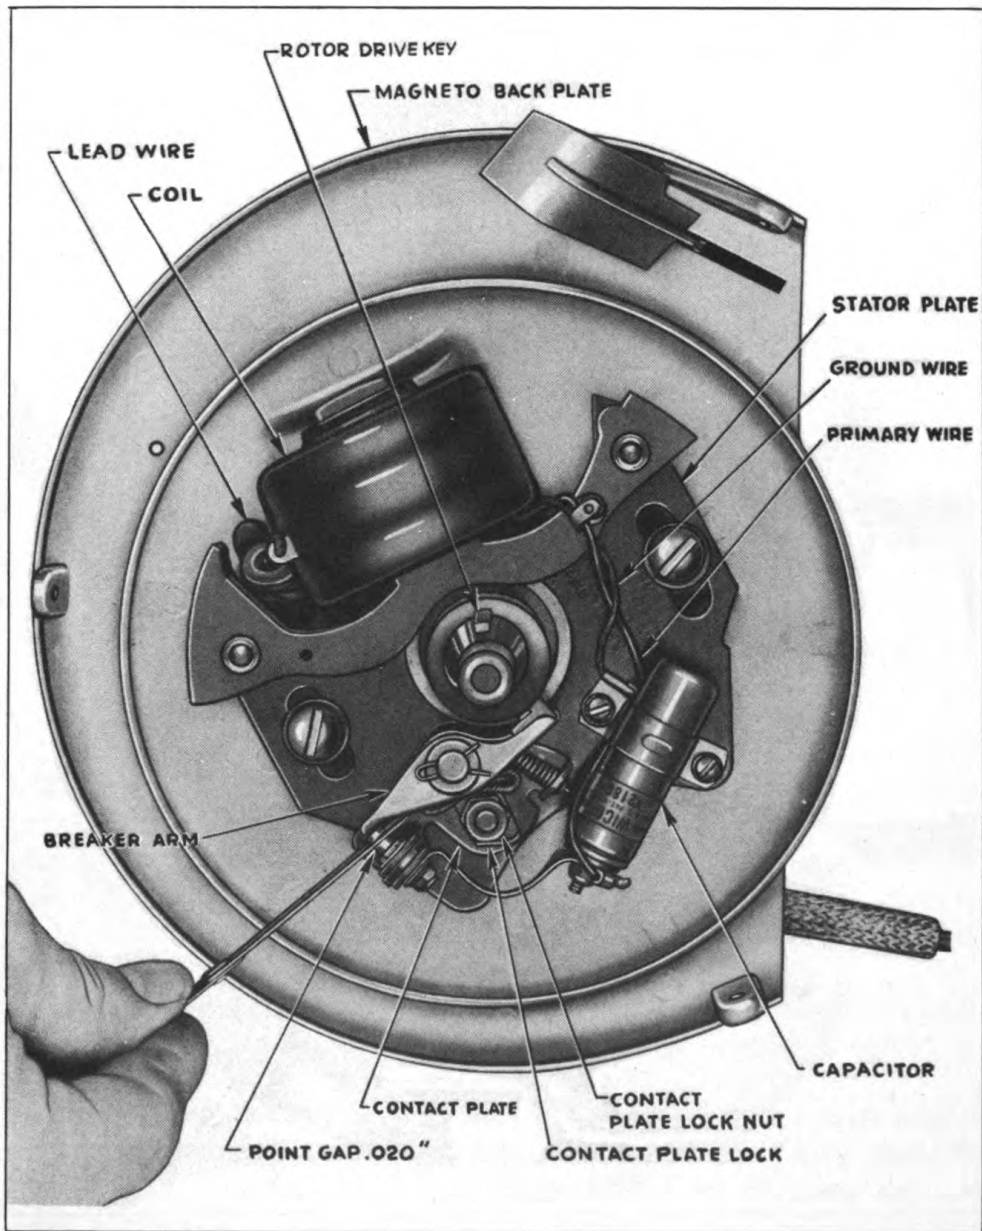
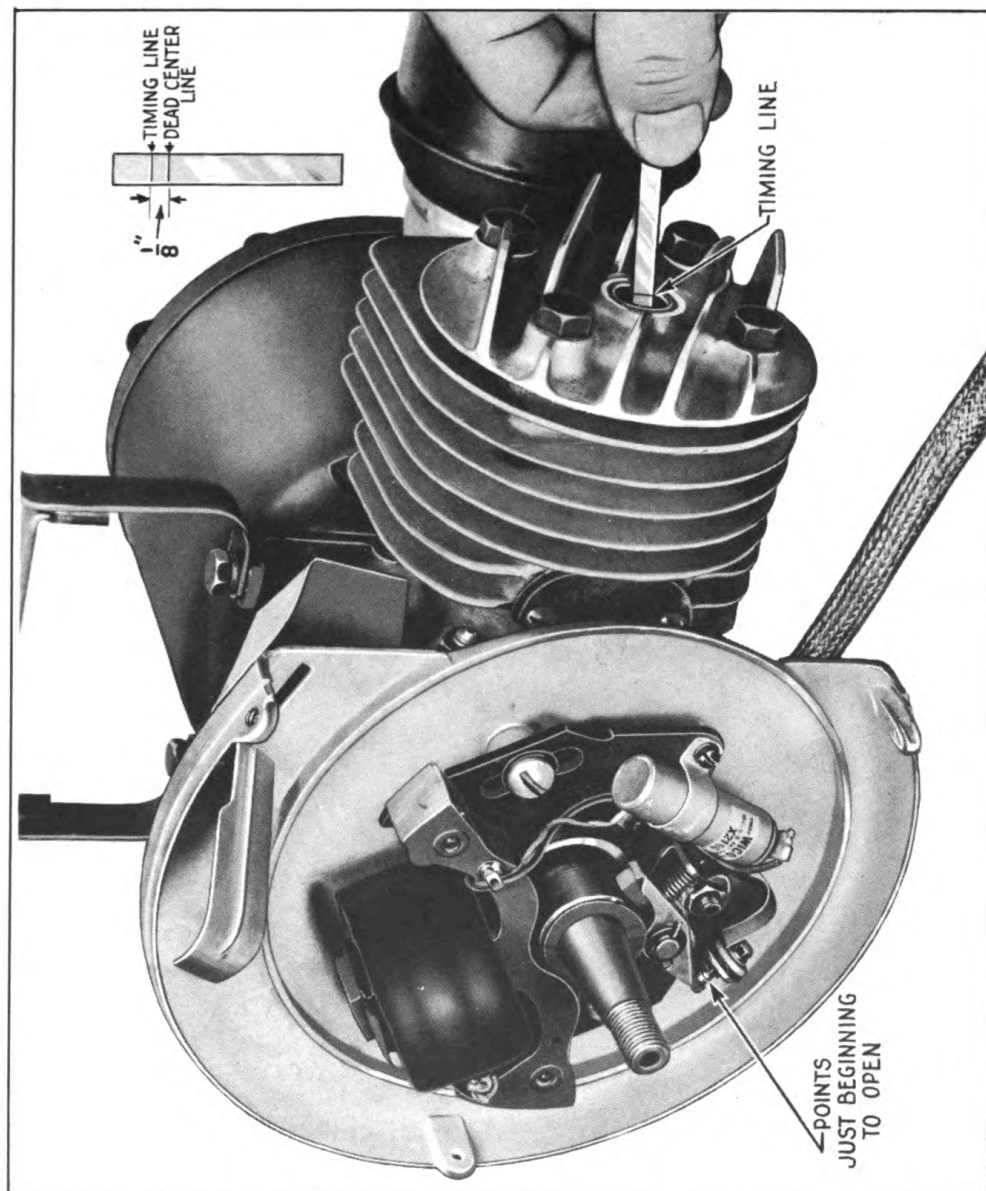

FIG. 11—MAGNETO POINT ADJUSTMENT
FIG. 12—MAGNETO TIMING
To adjust points, turn engine clockwise (to the right) by hand, until breaker points are fully open. Check opening (See Fig. 11, Page 23) with feeler gauge (125). Correct opening is .020". (Note: Although contact points remain open during the entire travel of the cam (21) from the breaking edge, being closed only while the flat section of the cam is passing the breaker arm (20) fibre, the cam must be positioned so the breaker arm fibre rests on the highest point of cam when gauging point opening.)
If points need resetting, bend down contact plate lock (27) (See Fig. 11, Page 23), loosen lock nut (30) which holds breaker plate (31) in position, and move plate up or down as might be necessary to obtain proper point opening. After setting is accomplished, be sure to tighten lock nut (30) and bend ear of plate lock against flat of lock nut so it can not loosen up.
(1) Check point opening as outlined under magneto directions (Paragraph 11, Page 22). Remove spark plug. Turn crankshaft (9) in direction of engine rotation (to the right) until piston reaches top dead center.
(2) Insert a small rod through spark plug hole in cylinder head (97) until it touches top of piston. Scribe a line on the rod flush with top of spark plug hole. Then withdraw rod and scribe another line up $\frac{1}{8}$ " from dead center mark (See Fig. 12, Page 24). Next, turn engine in opposite direction of rotation (to the left) about one-quarter turn.
(3) The rod should again be inserted through spark plug hole until it touches top of piston. Then turn engine in direction of rotation (to the right) until top mark on rod is flush with top of spark plug hole.
(4) Move stator plate (35) until points just begin to break. Tighten plate by means of the two round head screws, which lock plate in place. Recheck to determine if piston is $\frac{1}{8}$ " from top dead center when points just begin to break. If setting is exactly as described, the timing is then so a spark occurs when piston is $\frac{1}{8}$ " from top dead center.
(5) Replacing high tension wire. A chafed or broken cable (25) which is a cause for continuous or intermittent misfiring, should be replaced. The high tension cable should be stripped back about $\frac{1}{2}$ " on the magneto end, twist strands together and slip through hole in bracket attached to coil. Bend strands around bracket so cable cannot work out (See Fig. 11, Page 23).